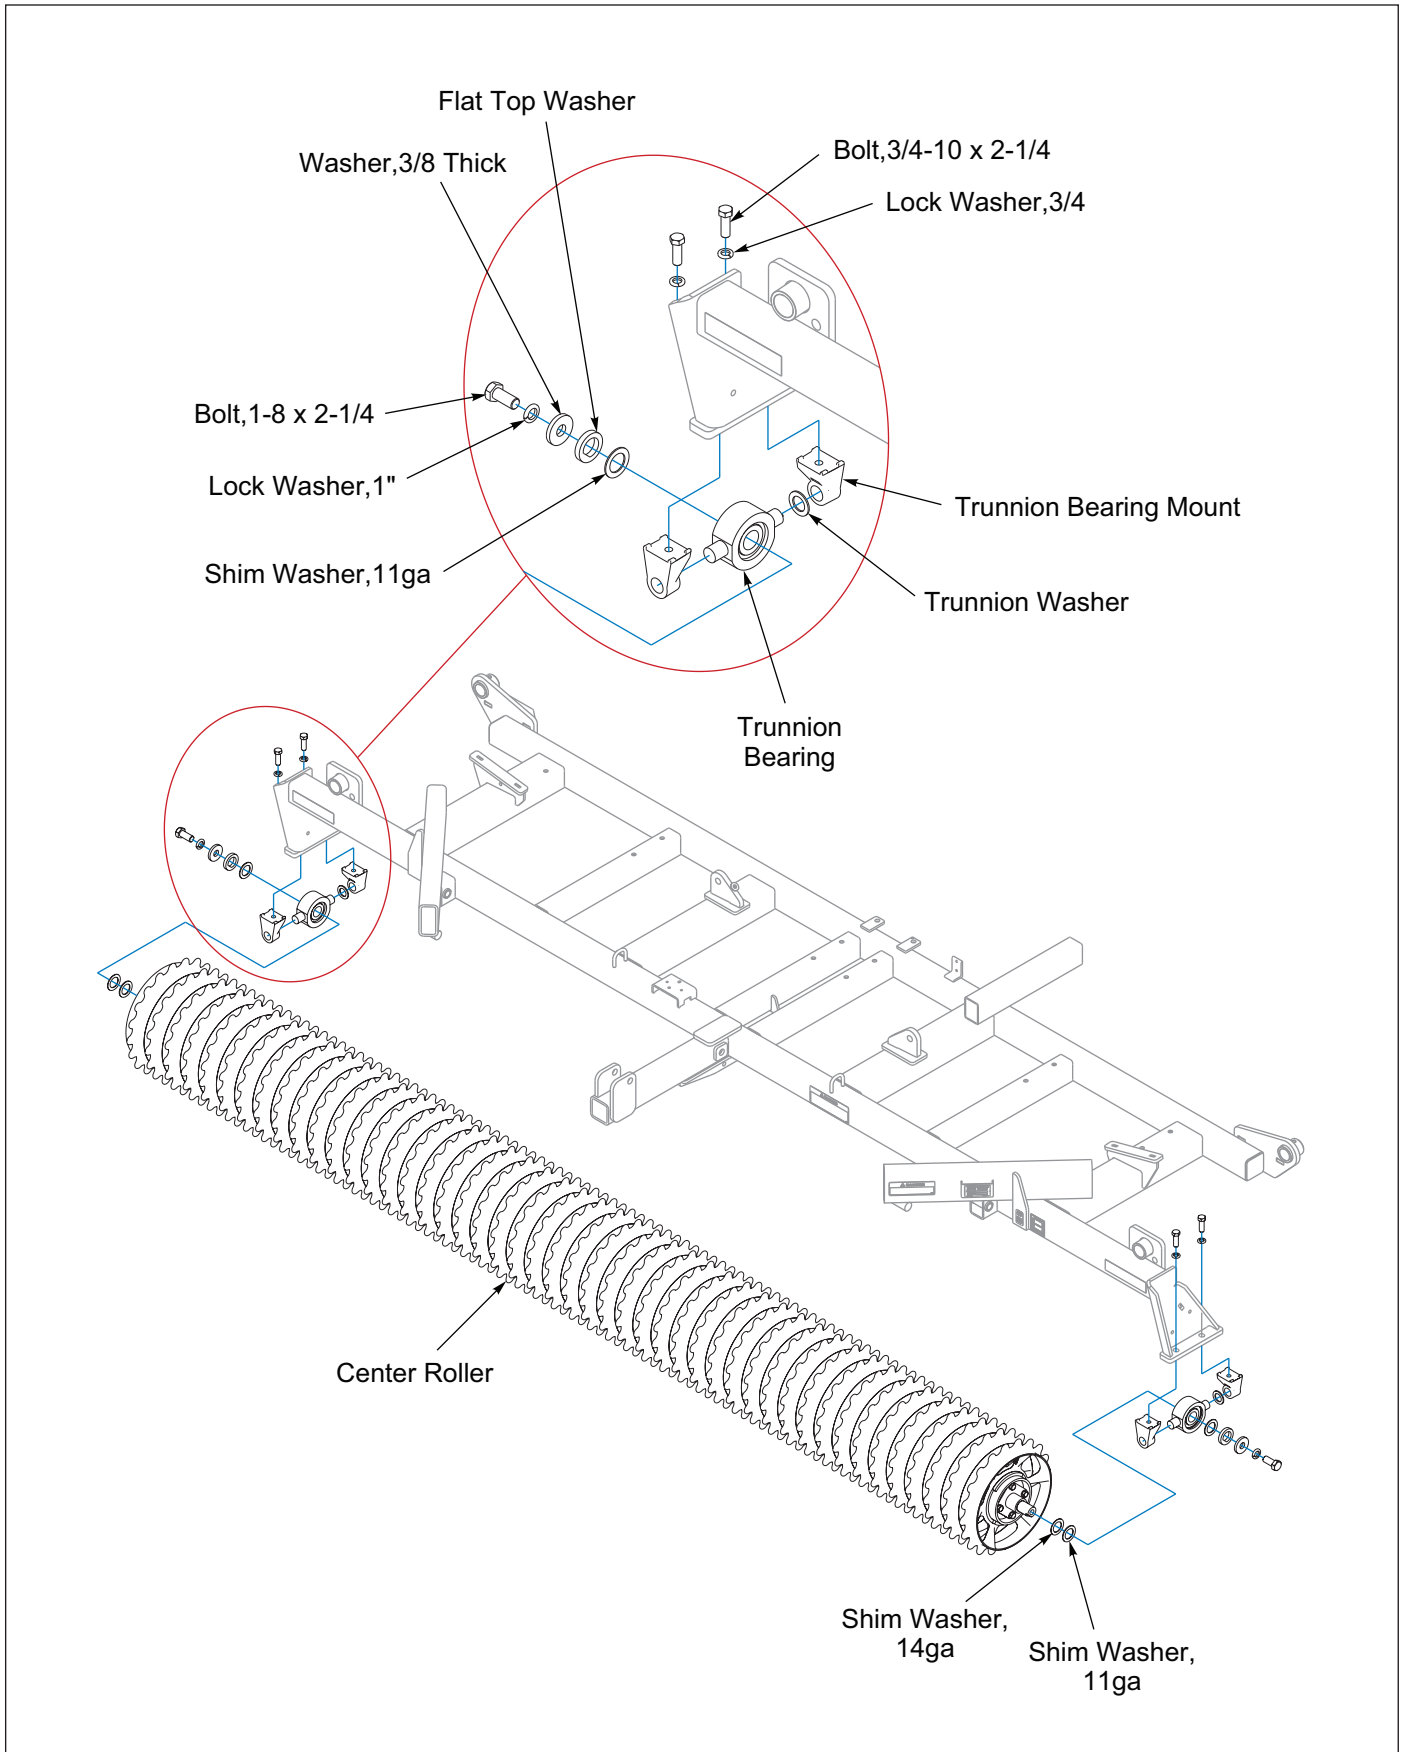

Figure 2-6: Center Roller Assembly Installation
4. Look at each Trunnion Bearing Mount to make sure that it is sitting perpendicular to the Center Frame Bearing Hanger. If not adjust the Shim Washers accordingly, for each side there are two 11ga and one 14ga Shim Washers. Shim Washers can be all three on the inside between the Stub Shaft shoulder and the Trunnion Bearing, all three can be on the outside between the Trunnion Bearing and Flat Top Washer, or a combination on either side, but all three must be used to minimize the gap. If gap cannot be properly minimized with bearing snap rings to outside, turn bearing around to have snap ring to inside. The bearing inner race is offset with respect to the trunnion bosses by 1/32". By installing bearings with snap rings in versus out, 1/16" difference can be made up at assembly if needed. See **Figure 2-6.**